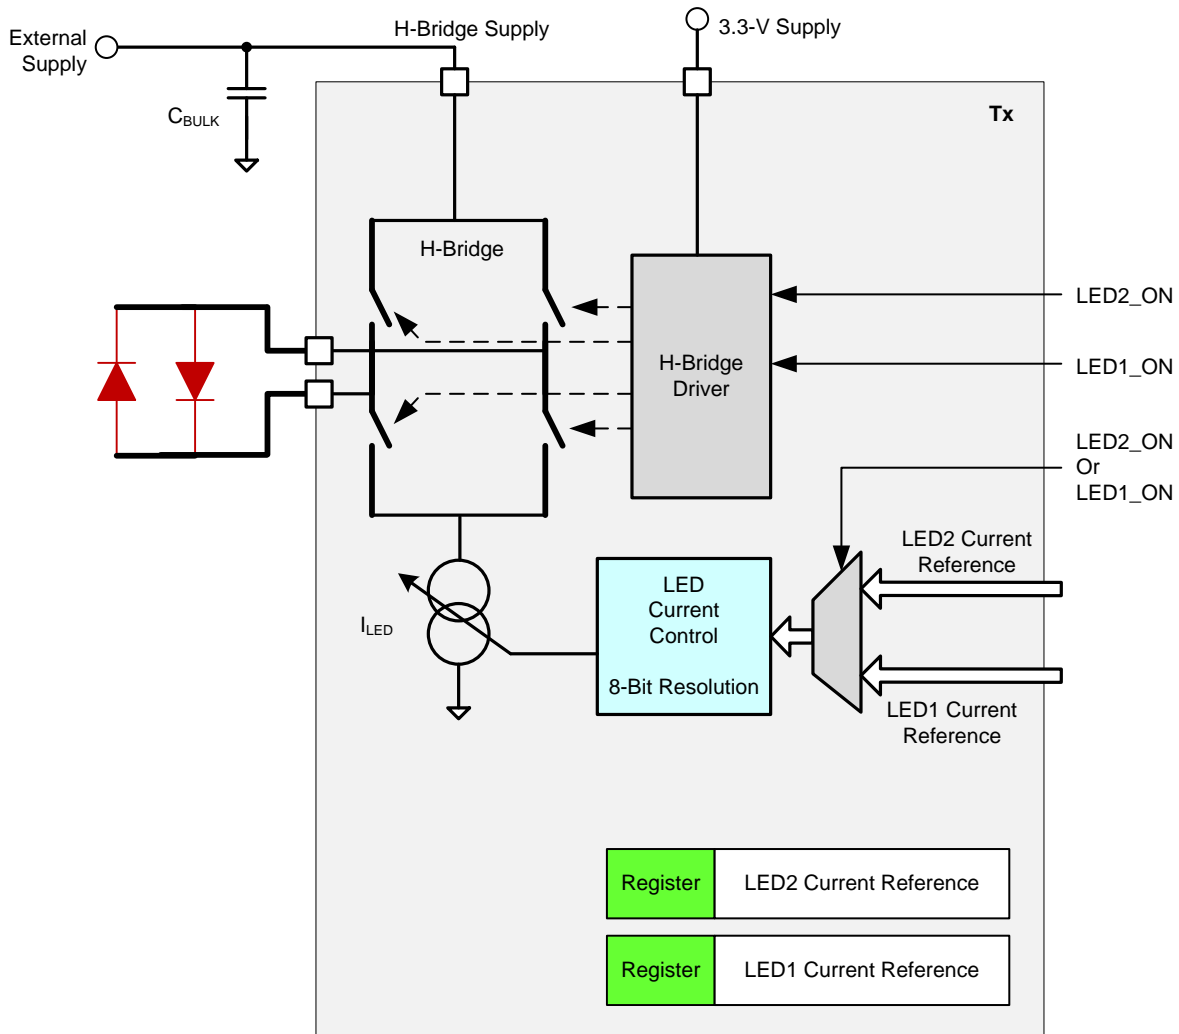

Figure 46. Transmit: H-Bridge Drive
- An H-bridge drive for a two-terminal back-to-back LED package, as shown in Figure 46. The minimum H-bridge supply voltage must be $2.5\text{ V} + (\text{maximum voltage drop across the LED})$.